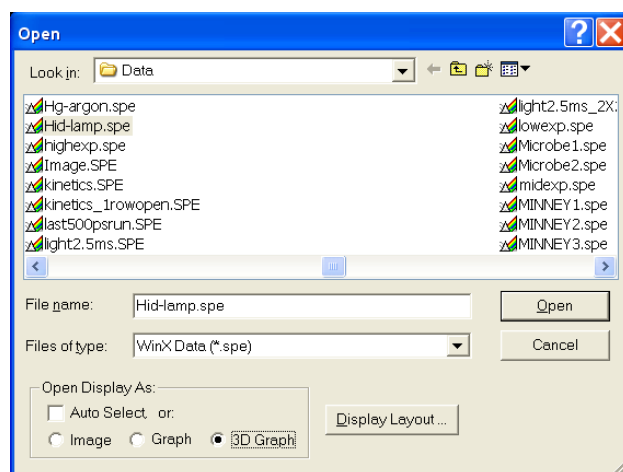

Figure 73. Open dialog
1. From the **File** menu select **Open**. The **Open** dialog (Figure 73) will appear, allowing you to select the image to be opened. The Look-In box provides a browser function so that the directory where the images are located can be easily accessed. By default the data directory is a subdirectory of the WinSpec program directory. Files of the specified type (the WinSpec/32 data type is *.spe) in the current directory and any subdirectories are listed in the box below the directory name.